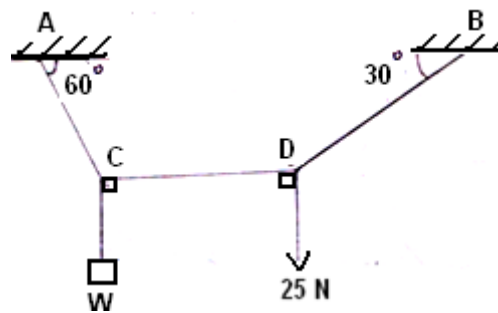

Fig. 5
Q.6	(a) Two forces act at an angle of 60° , their resultant force is 50 N acting at 30° with one of the forces, find the value of forces. (b) Find the known weight 'W' in a given force system shown in fig. 5